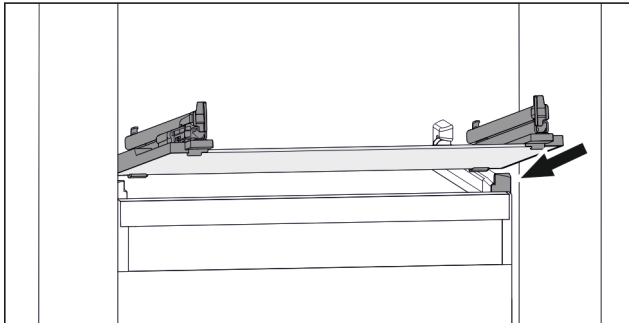

Fig. 38 Example illustration of glass shelf
- ▶ Position glass shelf at an angle behind the stoppers. (see Fig. 38)